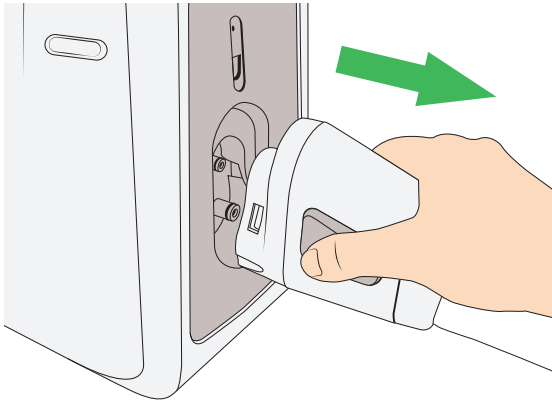

Figure 52
- Press the side buttons on the connector simultaneously and remove the tube-set. See Figure 52